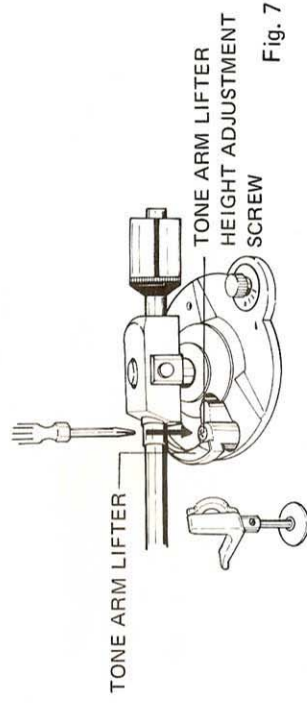

Fig. 7
6. Set the cueing lever in the UP position and place a record on the turntable platter temporarily. Move the tone arm over the record and check the height of stylus. If the stylus touches with record, tone arm lifter is too low. Adjust the tone arm lifter height by turning its screw counter-clockwise until a little space between the stylus and record will be obtained for smooth auto return function (Fig. 7).